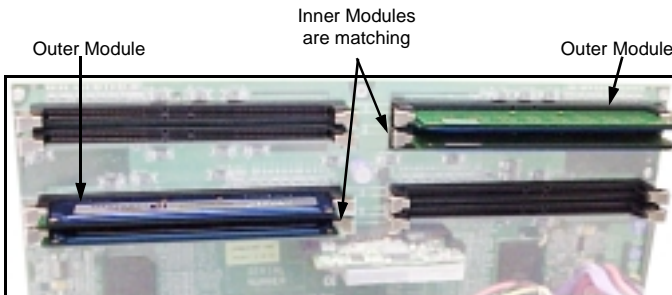

Figure 2.1
- Step 1** Line up your module so that the pins fit into the slot. There is only one way your memory module can fit properly. Make sure that the short row of pins is lined up with the short gap in the RDRAM socket. See **Figure 2.1** (on p.17) for graphic details on how the memory should be installed.
- Inner and outer RIMM sockets must be matching (e.g. if you have one RIMM module in the inner socket, another RIMM module must be installed in the other inner socket, and so on). See p. 20 and **Figure 2.1** (below) for an example.
- Any empty slots must be filled with C-RIMM Continuity modules. Tyan has included (2) C-RIMM modules for your convenience (examples** are shown above in **Figure 2.1**).